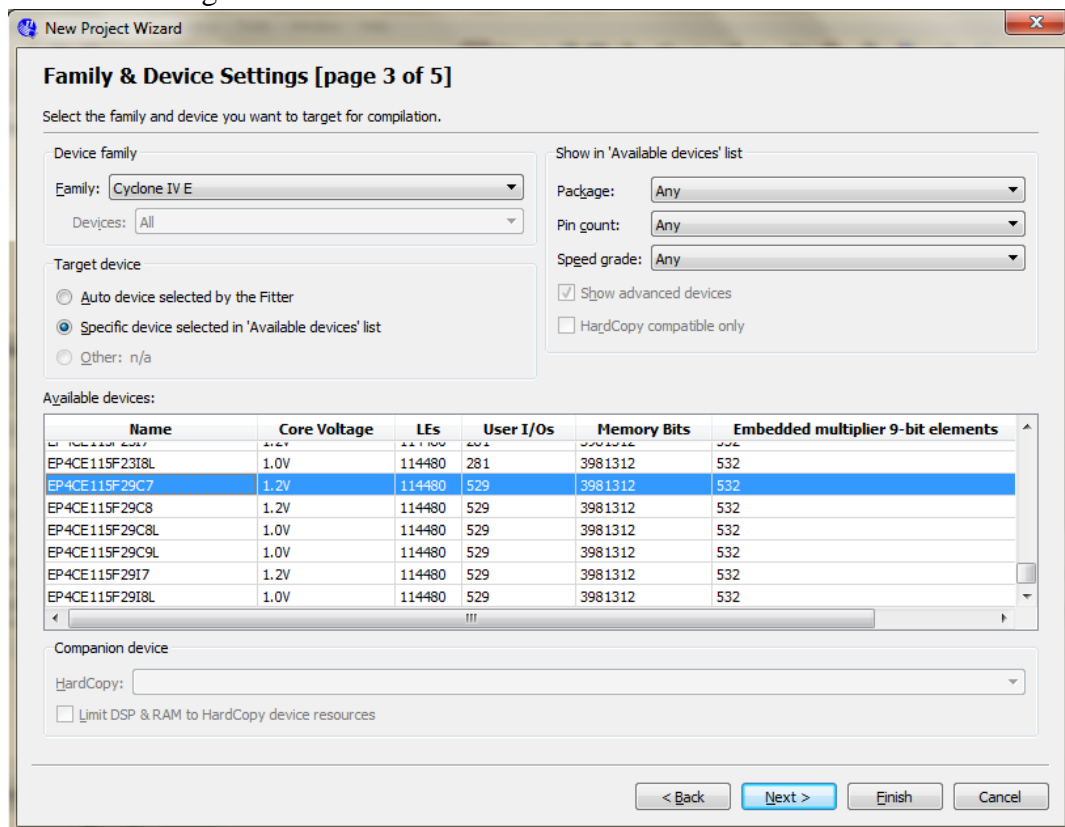

Figure 8. Choose the FPGA material.
- The wizard makes it easy to specify which existing files (if any) should be included in the project. Assuming that we do not have any existing files, Click **Yes**, which leads to the window in Figure 8.